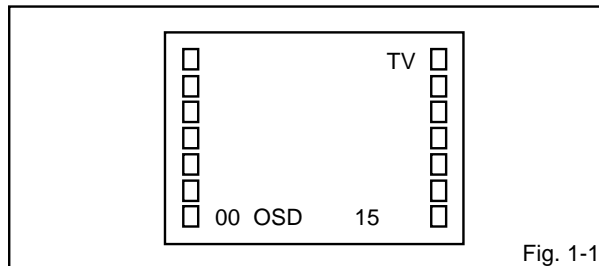

Fig. 1-1
1. In the condition of NO indication on the screen. Press the VOL. DOWN button on the set and the Channel button (**9**) on the remote control for more than 1 second to appear the adjustment mode on the screen as shown in **Fig. 1-1**.
3. Activate the adjustment mode display of **Fig. 1-1** and press the channel button (**01**) on the remote control to select "CUT OFF".
4. Activate the adjustment mode display of **Fig. 1-1** and press the channel button (**10**) on the remote control to select "R. BIAS".
2. Activate the adjustment mode display of **Fig. 1-1** and press the channel button (**05**) on the remote control to select "H.PHAS".
3. Activate the adjustment mode display of **Fig. 1-1** and press the channel button (**06**) on the remote control to select "V.SIZE".
2. Activate the adjustment mode display of **Fig. 1-1** and press the channel button **(07)** on the remote control to select "V.SFT".
1. Activate the adjustment mode display of **Fig. 1-1**.
1. Activate the adjustment mode display of **Fig. 1-1** and press the channel button **(13)** on the remote control to select "BRI.CENT".
2. Activate the adjustment mode display of **Fig. 1-1** and press the channel button **(22)** on the remote control to select "TINT".
1. Activate the adjustment mode display of **Fig. 1-1** and press the channel button **(17)** on the remote control to select "CONT.MAX".